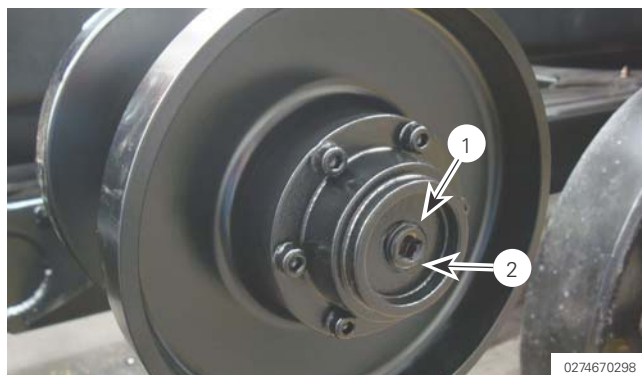

Figure 216
- » Re-install the center plug (item 1 on Figure 216) using a sealing compound.